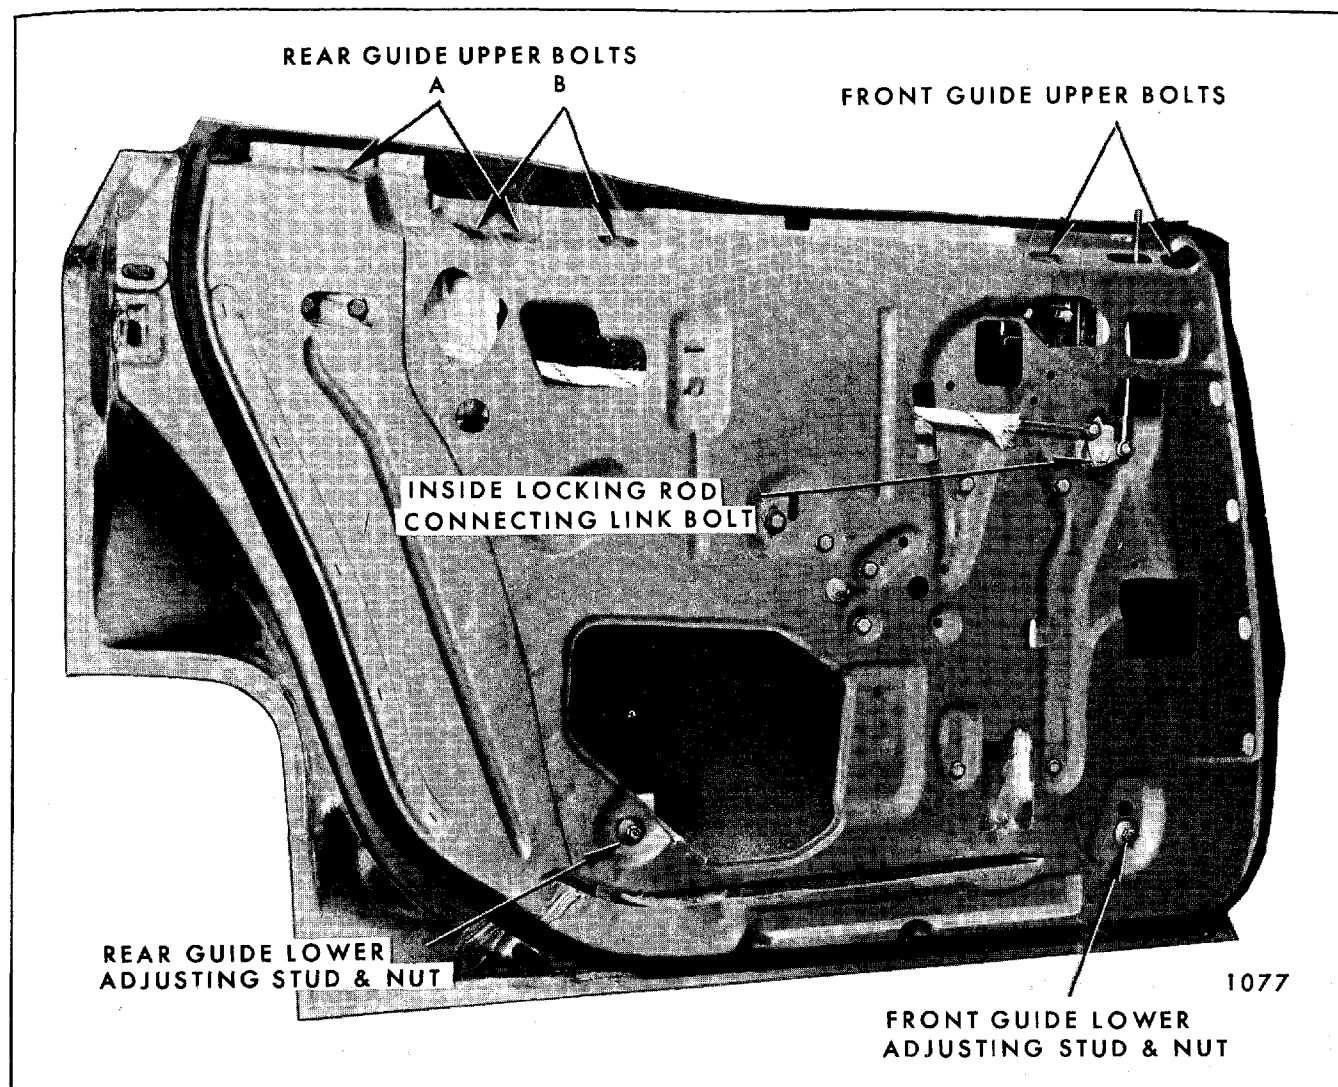

Fig. 7-154—Rear Door Window Guides - "B & C-39 and C-69" Except 68069-68169 Styles
2. Remove front guide attaching bolts at belt line and lower adjusting stud nut (Fig. 7-154).
3. Remove inside locking rod connecting link attaching bolts (Fig. 7-154). Disengage guide from inside locking rod and remove guide through access hole.
3. Remove rear guide upper attaching bolts (Fig. 7-154 - Locations "A" for 38-48-68000 Series, Locations "B" for remaining styles). Remove rear guide lower adjusting stud nut.